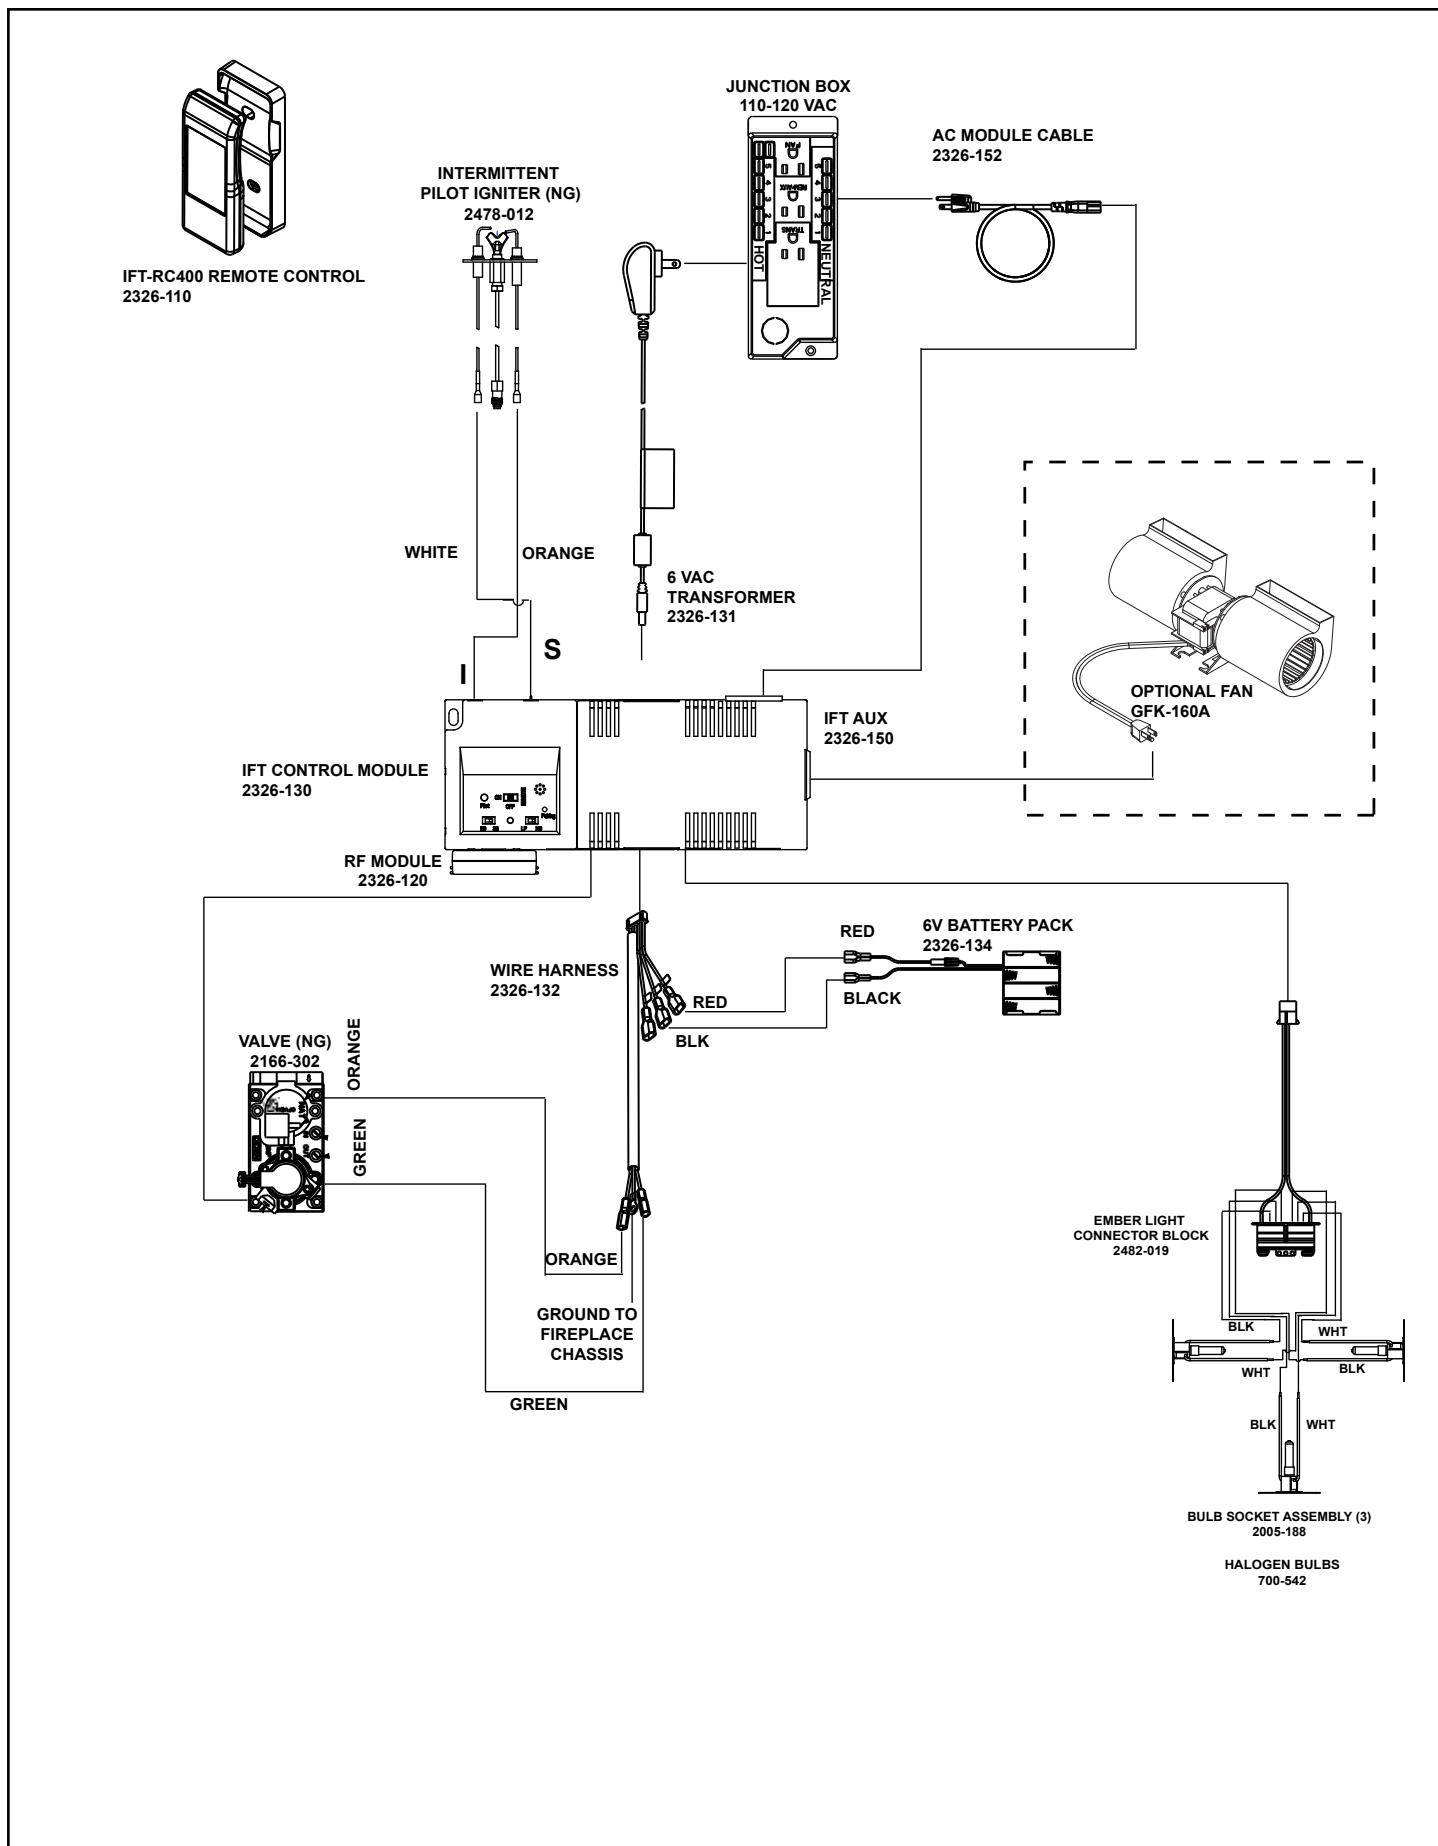

Figure 8.2 IntelliFire™ Touch Wiring With Remote
- Refer to Figure 8.2, IntelliFire™ Touch (IPI) Wiring Diagram.
2. Plug the fan into the AUX. See Figure 8.2 for fan and AUX connection.